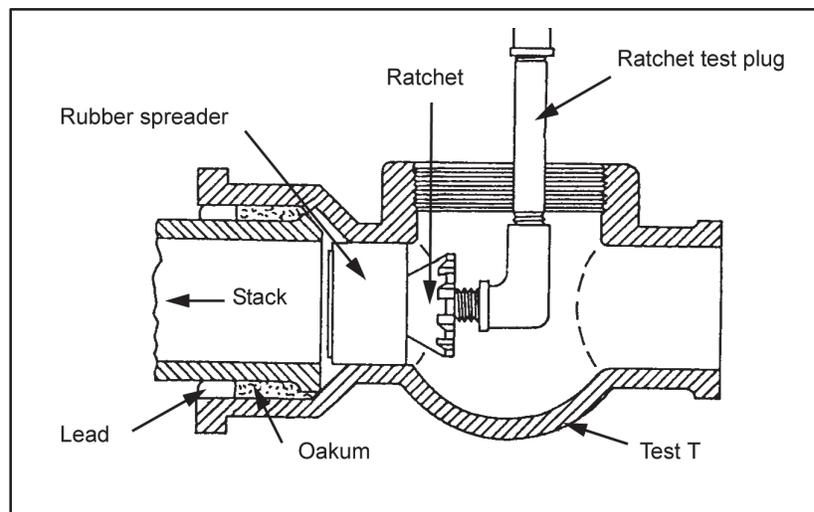

Figure 8-2. Test T with plug inserted
- Step 1.** Seal all branches and vent lines. Place a ratchet test plug in the test T (figure 8-2) at the base of the stack.